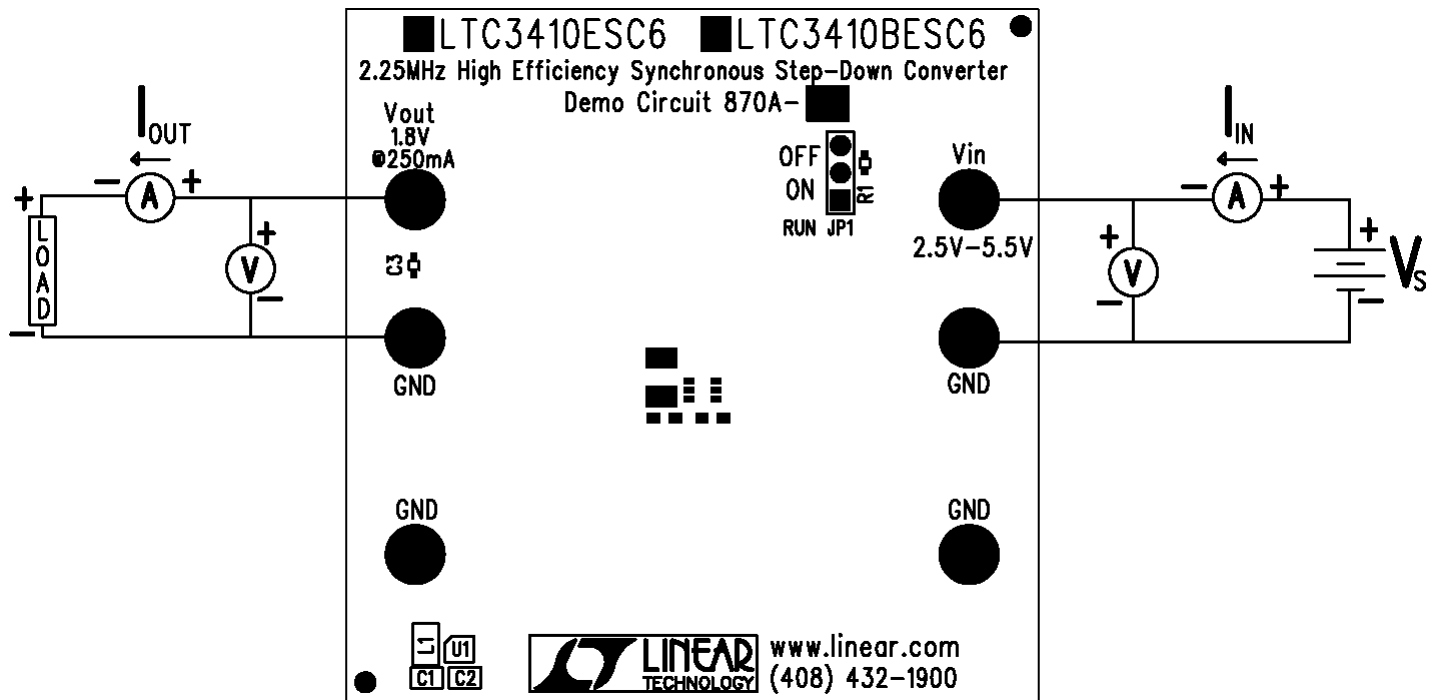

Figure 1. Proper Measurement Equipment Setup
The DC870A-B is easy to set up to evaluate the performance of the LTC3410B. For proper measurement equipment configuration, set up the circuit according to the diagram in **Figure 1**. Before proceeding to test, insert jumper JP1 shunt into the off position, connecting the RUN pin to ground (GND), which shuts down the circuit.
1. Connect the input power supply and the load to the board. Do not hot-plug V_{in} or increase V_{in} over the rated maximum supply voltage of 5.5V, or the part may be damaged. Refer to figure 1 for the proper measurement equipment setup.